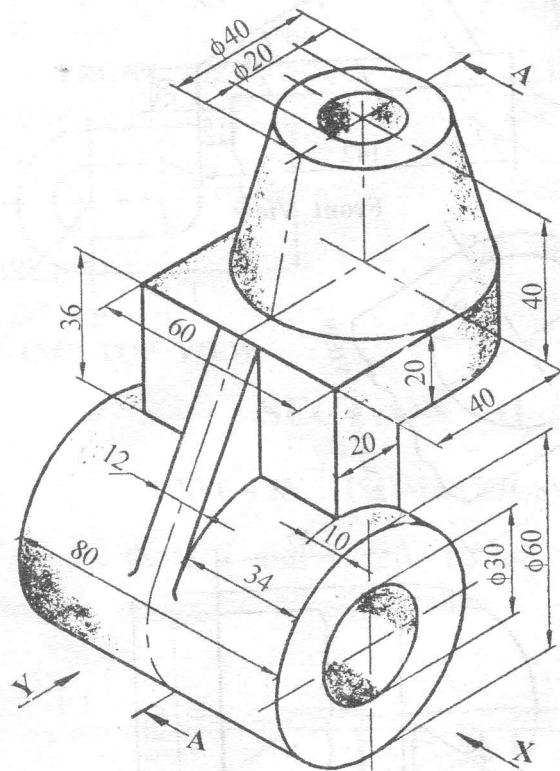

Fig. 4
Q.4) For the supporting block, shown in fig. 4, Draw to full size the following views :